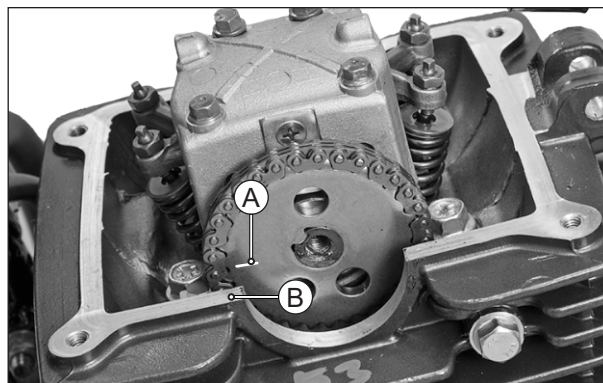

Fig. 3.76
- Assemble the sprocket camshaft along with the cam chain in the camshaft complete while aligning the sprocket camshaft mark (A) with the cylinder head surface (B) towards exhaust side. (Fig. 3.76)